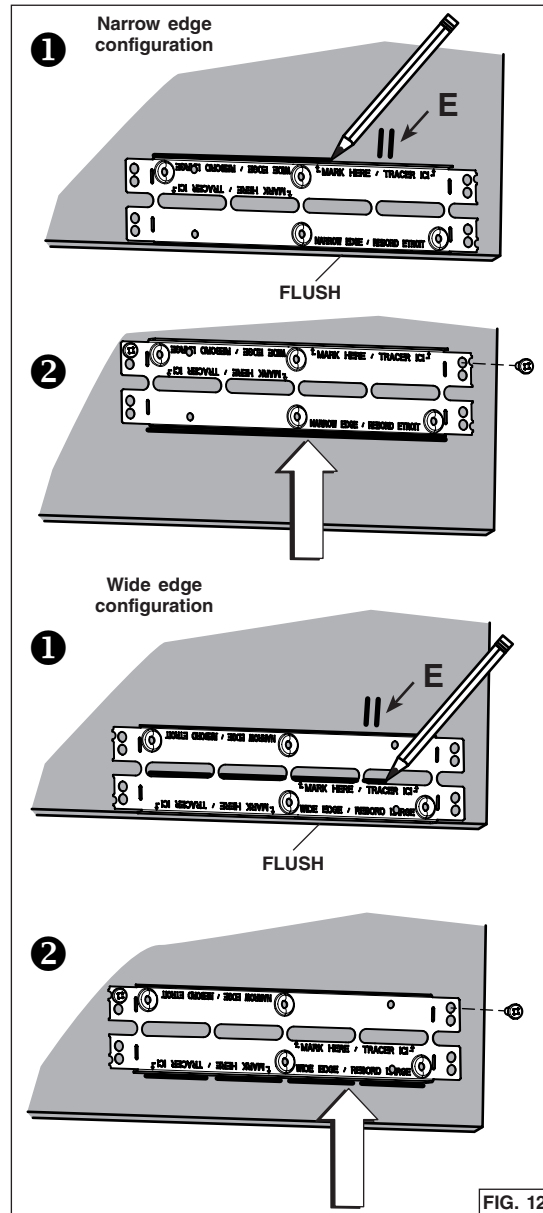

FIG. 12
5. Pay attention to the Ease of Install hooks location on the unit (distance given from unit front flange, FIG. 11). Measure and mark the position of the Ease of Install hooks (shown as **E** in FIG. 12 on next page) on both cabinet side walls.
6. Install the cabinet brackets as follow (FIG. 12):
- 1 Align the bracket flush with the bottom of the right cabinet side panel, with the hooks marked position (E) between the bottom embossed holes. For the narrow edge configuration, trace a line on the top of the bracket. For wide edge configuration, trace a line at the bottom of the central slots.